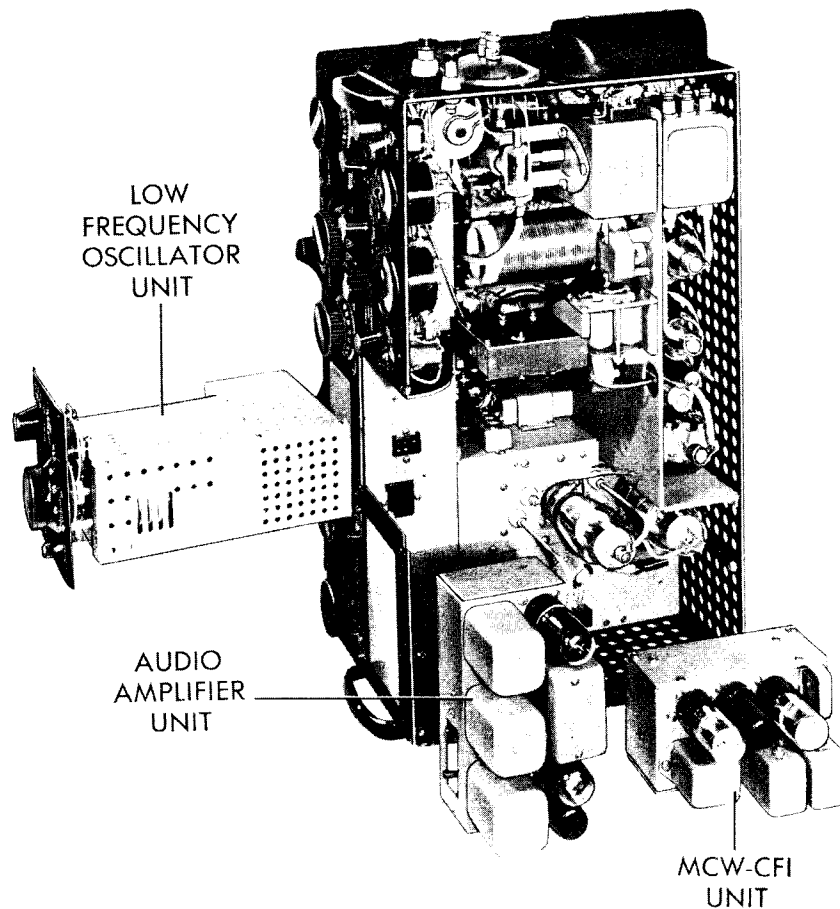

Figure 5-6. Radio Transmitter T-47A, ART-13 and Removable Units
(5) DISASSEMBLY OF TRANSMITTER UNIT.—The transmitter unit contains three major assemblies that are equipped with multi-terminal plugs to permit removal without unsoldering any connections. These readily removable assemblies are the VFO Low Frequency Oscillator O-17/ART-13A (or in Model AN/ART-13B only, the CDA-T Crystal-Controlled Oscillator), the Audio Amplifier, and the MCW-CFI Unit. Figures 5-6 and 1-3A show the units removed from the equipment. Wrap-around sections and panels of the